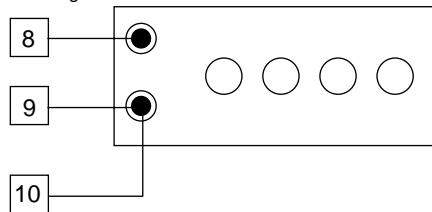

Figure 5. Resistor Box Connection
- Connect a resistor box and the instrument as shown in Figure 5.